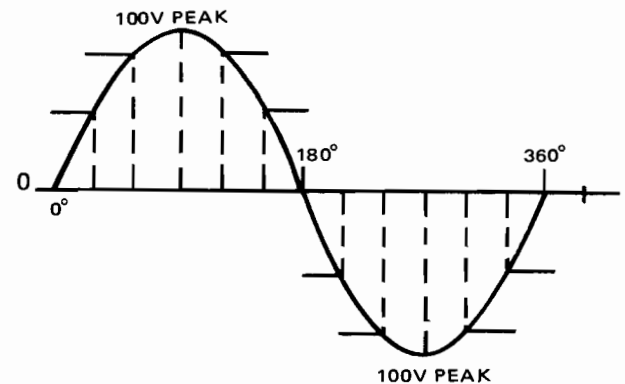

Fig. 7-4-1
1. Refer to ac sine wave in Fig. 7-4-1. Mark positive and negative parts of wave on drawing.
3. If peak value of waveform is 100 volts, calculate instantaneous voltage for each degree angle listed by using formula: $e = \text{peak value} \times \text{sine of the angle}$. Appendix 4, page 399 of text, lists necessary trigonometry functions to make these calculations. Mark calculated instantaneous values of waveform at appropriate blanks in Fig. 7-4-1.
10. Peak-to-peak value of ac waveform in Fig. 7-4-1 is _____ volts.